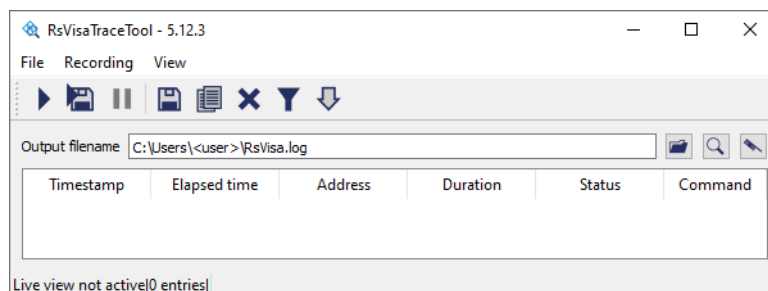

Figure 11-2: Trace tool dialog started, no entries yet
- ▶ To track VISA commands, click "Start recording" ▶ (button at top left of Figure 11-2). During a recording, the "Trace Tool" creates a log table of all VISA commands that occur upon operating other software, including R&S ELEKTRA. For example, when you start an EMI test, the recording can look as follows: